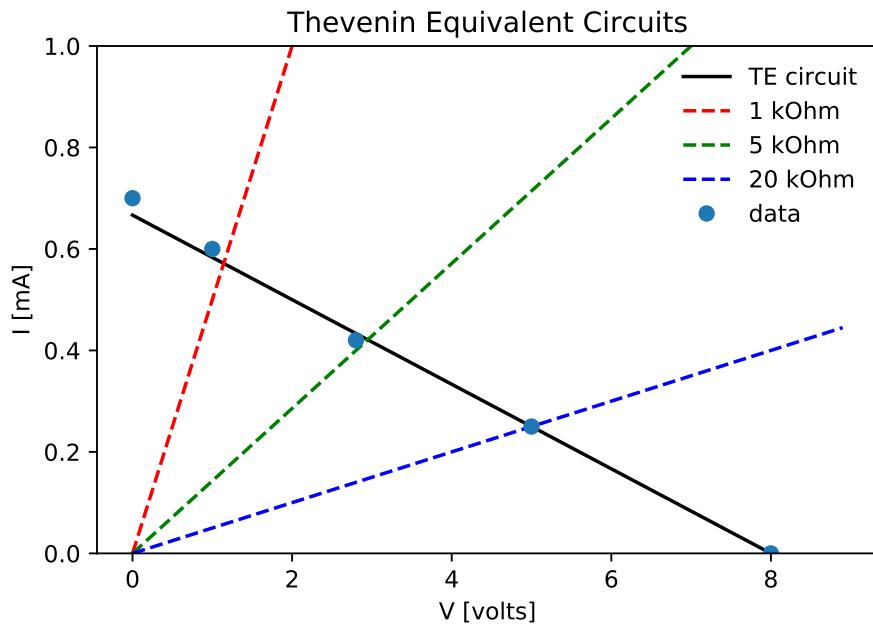

Figure 3.2: Example of IV curves for Thevenin equivalent source circuit with various load resistors.
**Plot 3.1.** To present your analysis you should produce a plot similar to that of Fig. 3.2. Your plot should show the Thevenin equivalent source IV curve for the circuit you built in lab. You should also draw theoretical load IV curves for the three resistor values you used to make current and voltage. Finally, you should include data points for the five current and voltage measurements which you have made.